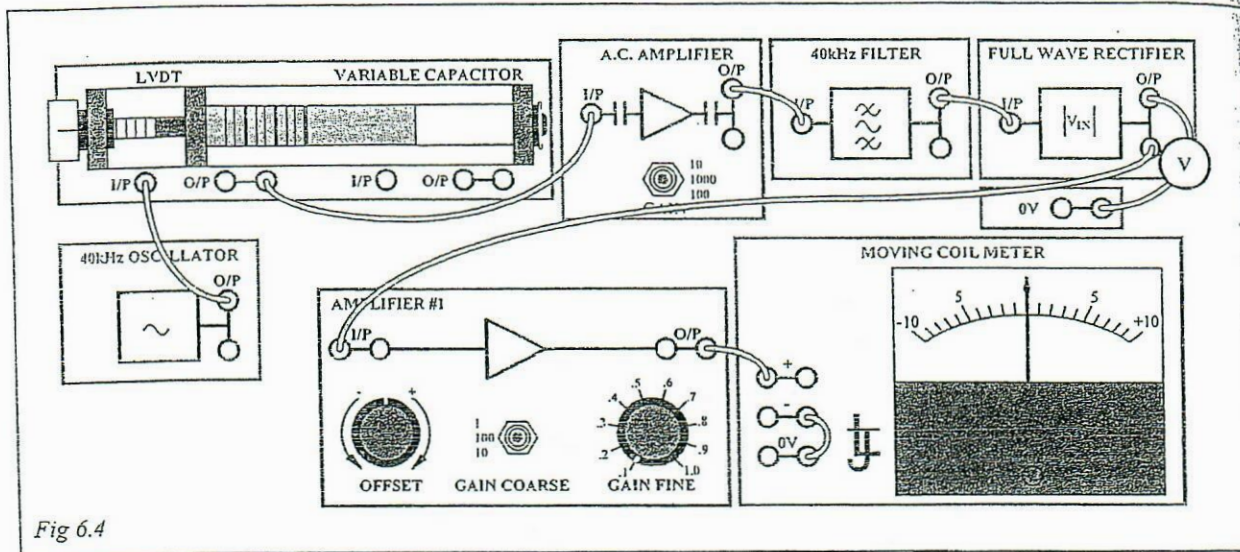

Fig 6.4
- Connect the circuit as shown in Fig 6.4 with the digital multimeter on the 20V DC range to monitor the output of the Full-Wave Rectifier. Switch ON the power supply.